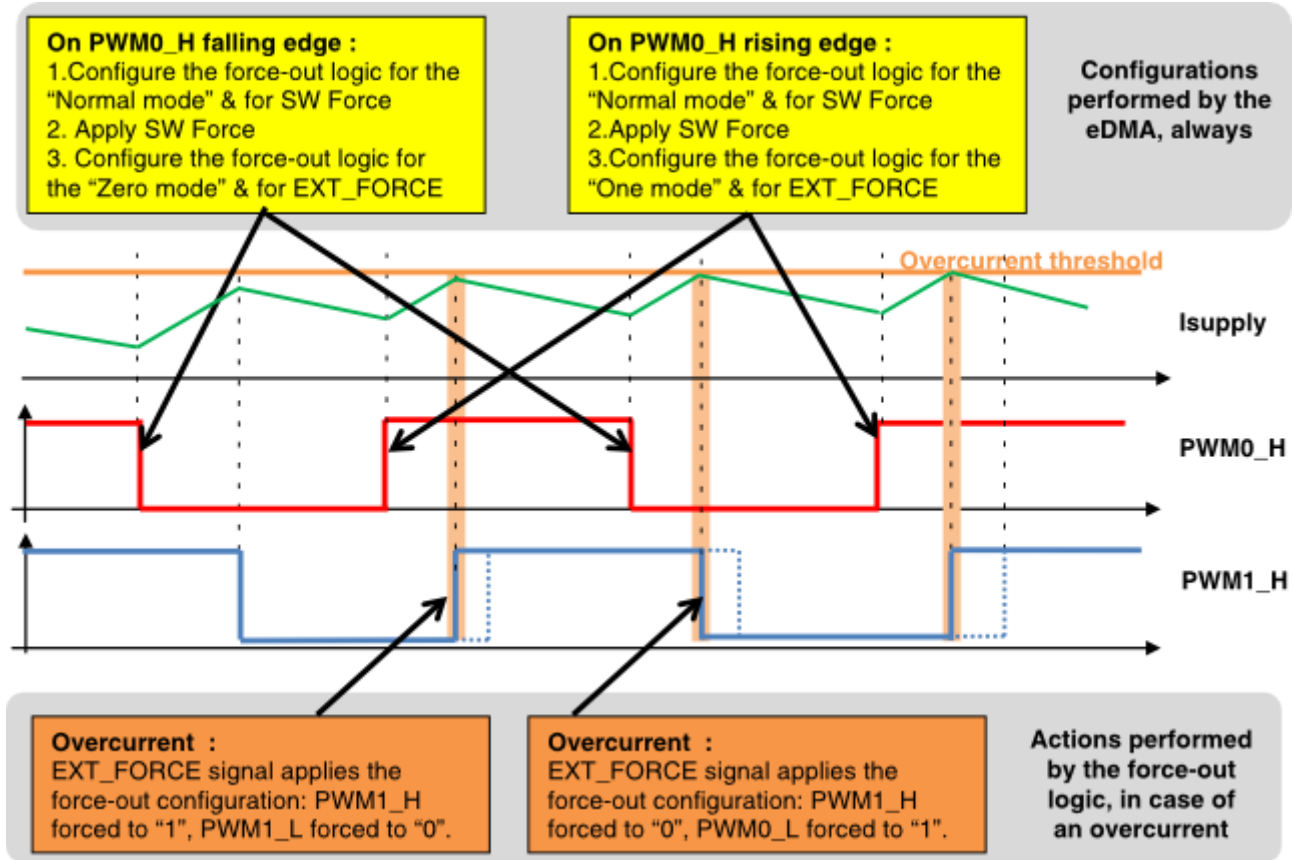

Figure 7. Principle of the overcurrent control with the force-out logic
Figure 7 illustrates these principles. Note that only the “high” PWM signal has been represented. The blue dotted lines on PWM0\_H show the internal PWM0\_H signal before the force-out logic.
- One may wonder why the Complementary mode of the force-out logic has not been used. Indeed, one may think this mode may remove the need for reconfiguration at each edge of PWM0\_H. However, consider the first overcurrent condition in Figure 7: if the force-out logic was configured in Complementary mode, the reaction to the overcurrent condition would have been the same, but then the PWM1\_H would have switched back to zero as soon as the timer reached the VAL3 values (edge represented by the dotted line). In any case, the force-out logic needs to be reset to its Normal mode at each edge.